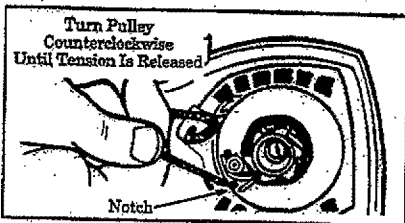

Figure 40
5. If the starter rope is not broken, release the spring tension by pulling about 10 inches of rope from the pulley and catch the rope in the notch as shown in Figure 40.